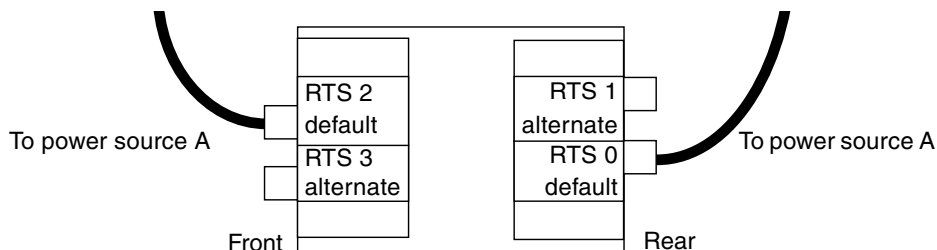

FIGURE 2-7 One AC Power Source
- In configurations with one AC power source there will be two cables to connect, one on the front (on the left), and one on the rear of the system (on the left) (FIGURE 2-7). **Connecting the alternate RTS units to outlets that use the same power source as the default RTS units will adversely affect reliability.**